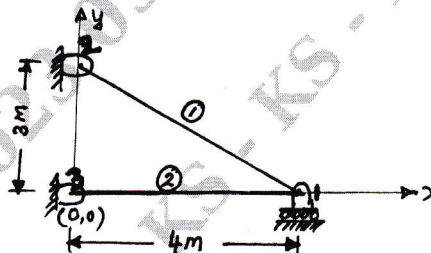

Fig Q3(c)
- c. For the truss configuration shown in Fig Q3(c), determine the stiffness values  $K_{11}$ ,  $K_{12}$ ,  $K_{22}$  and  $K_{66}$  of the global stiffness matrix. Assume  $E = 210\text{GPa}$ ,  $A = 6 \times 10^{-4}\text{m}^2$  for both the truss member.